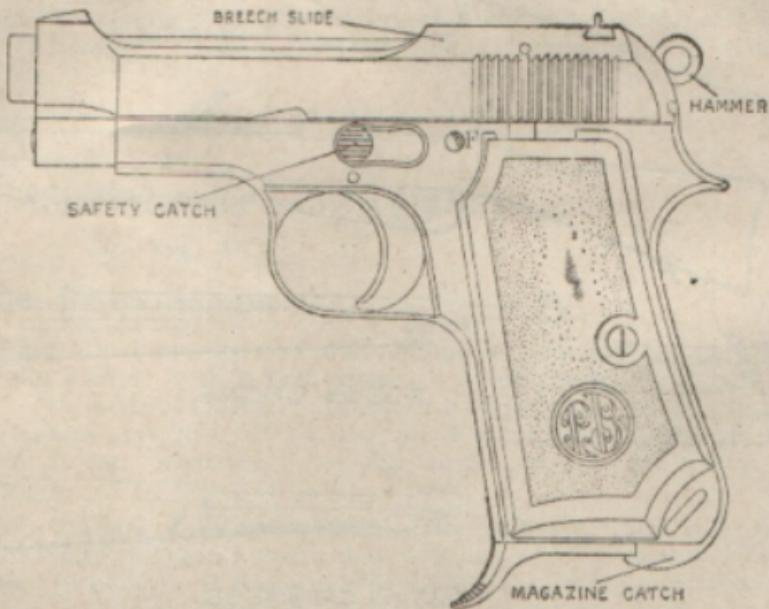

FIG. 3.—9 MM. S.L. PISTOL 34
4. 9 mm. Self-loading Pistol, Mod. 34—Beretta. (See Fig. 3)